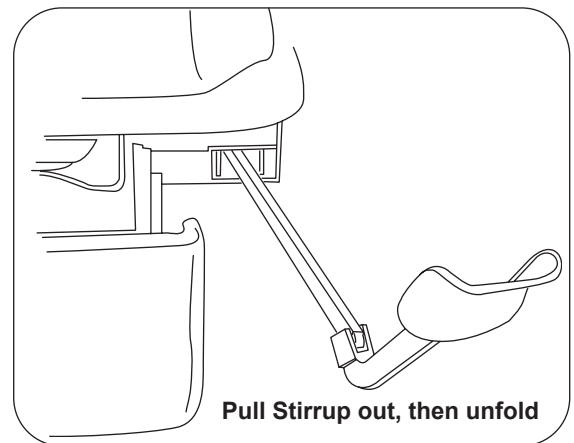

Figure 15. Operating the Stirrups
1. To operate the stirrups, grasp end of stirrup and pull straight out of the table. Lift up slightly while sliding the stirrup out (Figure 15).